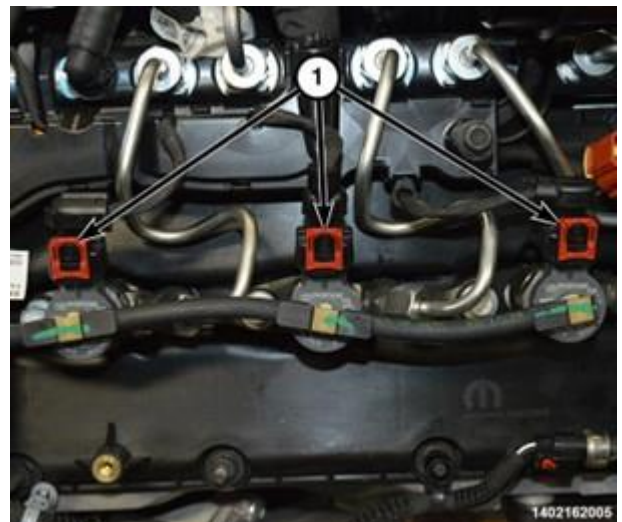

Figure 131 – Fuel Injector Wire Harness Connectors
- 69. Disconnect the fuel injector wire harness connectors (1) (Figure 131).